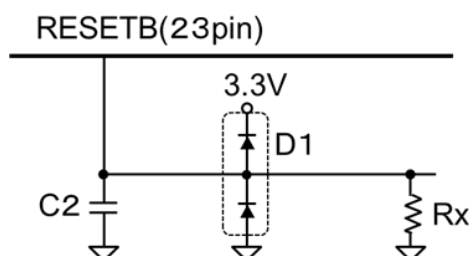

Figure 2-4 Example of an external circuit for the RESETB terminal
- An example of an external circuit for the RESETB terminal is shown in Figure 2-4, and an example of the circuit constants is shown in Table 2-2.